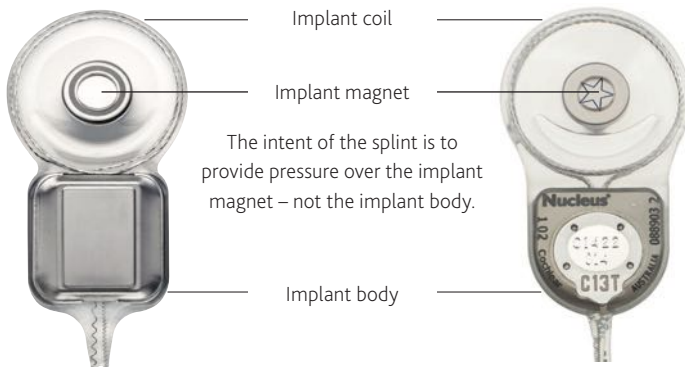

Figure 5: Location of the implant magnet on CI500 Series (left side) and CI24RE Series (right side) implants
- Touch - gently feel around the implant site to locate the position of the implant coil. The implant is comprised of two components; the round implant coil and the implant body. See *Figure 5: Location of the implant magnet on CI500 Series (left side) and CI24RE Series (right side) implants on page 61* below. The implant magnet will be at the centre of the implant coil.
1. Use a splint from the MRI Kit and centre it over the implant magnet site (as marked) against the skin. Ensure the splint is held in place over the implant magnet. See *Figure 5: Location of the implant magnet on CI500 Series (left side) and CI24RE Series (right side) implants on page 61* below for the implant magnet location. You may need the assistance of another person to hold the splint in place while you bandage. Otherwise, use the supplied tape to maintain the splint position prior to bandaging.